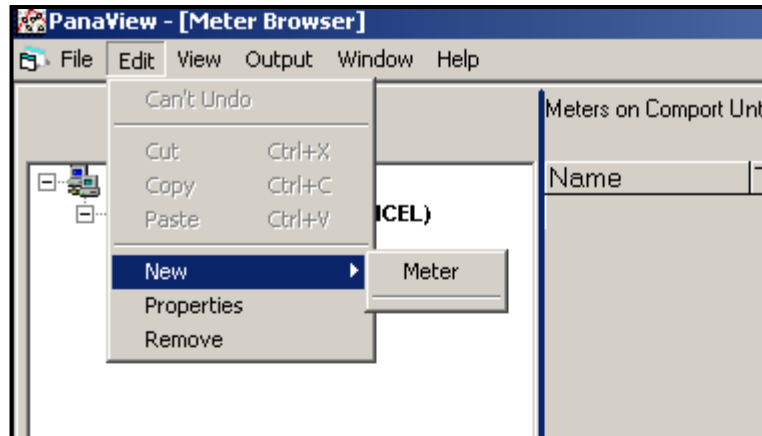

Figure 35: *New* Option in the *Edit* Menu
2. Click on the *New* option in the *Edit* menu (see Figure 35).